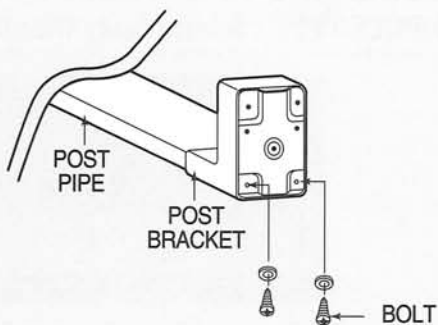

Fig. 2
2. Insert and fasten two display assembly screws as Fig. 2